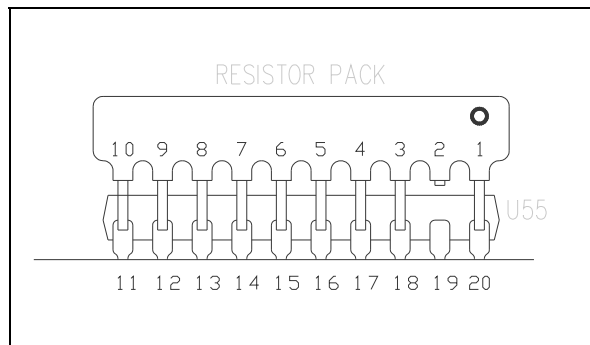

Figure 12
- m. Locate C30 and C31 close to the thin-net BNC and remove them from the board⁵. Refer to Figure 12 while installing the resistor pack to U55.
- m. Locate C76 and C77 close to the thin-net BNC and remove them from the board¹³. Refer to Figure 12 while installing the resistor pack to U55¹⁴.